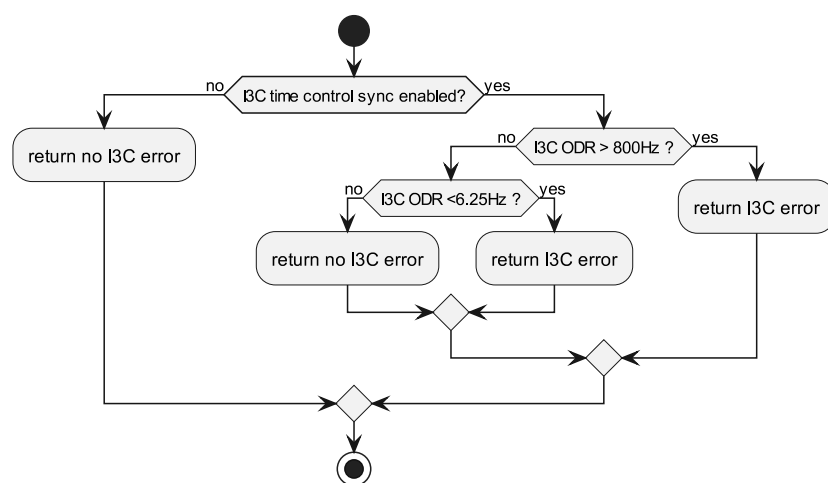

Figure 27 : Conditions for I3C Sample Rate (ODR) Configuration Errors
**ODR Configuration Error** The synchronous mode feature will operate in the correct manner only when the user follows the constraints on the supported sample rates. The device checks continuously for matching values of sample rates. If the value for one of the signals acceleration, angular rate or temperature is not within the limits, the `i3c_error` bit is set. The conditions for return an I3C error for an invalid sample rate (ODR) is detailed in Figure 27.